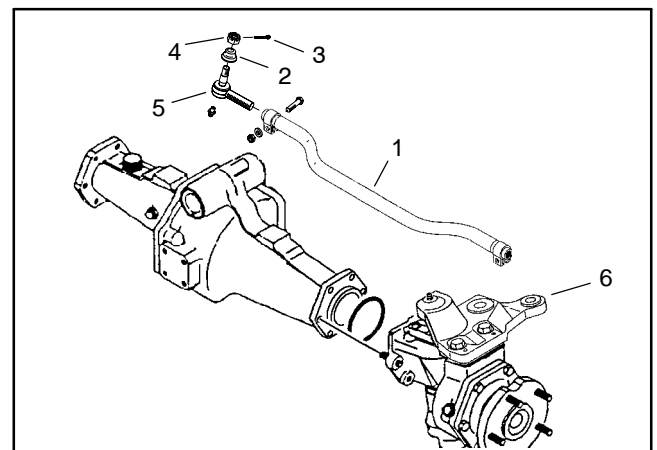
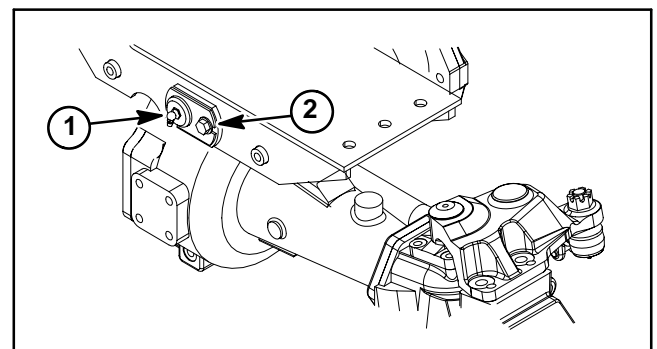

Figure 13
Figure 14
9. If required, remove tie rod ends from steering arms on rear axle (Fig. 13). Remove the cotter pins and castle nuts from the tie rod ball joints. Use a ball joint fork and remove the tie rod ends from the axle steering arms.
10. Support rear axle to prevent it from falling. Remove six (6) cap screws, flat washers and flange nuts that secure rear axle mount to equipment frame. Lower rear axle and rear axle mount from machine.
11. Remove lock nut and washer from pivot pin that attaches rear axle to rear axle mount. Remove washer head screw that secures flange of pivot pin to axle mount (Fig. 14).
2. Install axle pivot pin to secure axle to rear axle mount. Install washer and lock nut onto pivot pin. Tighten lock nut and then loosen it slightly to allow the axle pin to pivot freely. Secure pivot pin to axle mount with washer head screw (Fig. 14).
4. Secure rear axle mount to frame with six (6) cap screws, flat washers and flange nuts.
6. If removed, install the tie rod to rear axle (Fig. 13). Tighten ball joint castle nuts and install new cotter pins.